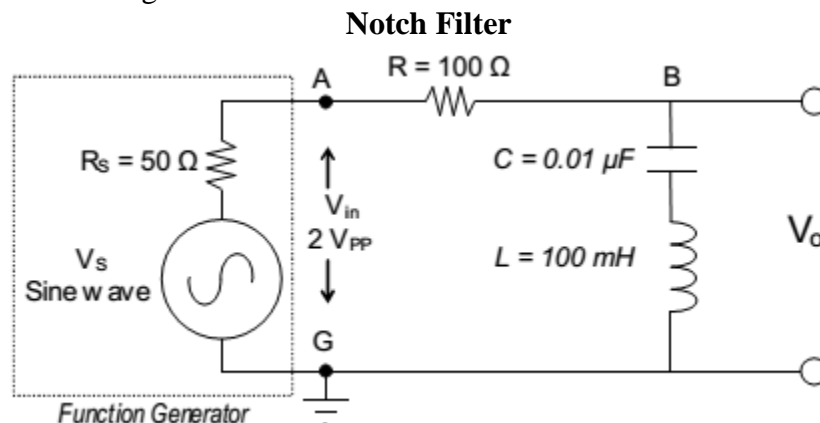

Figure 4
16. Switch the positions of the resistor with inductor and capacitor to get the series RLC circuit shown in Figure 4.